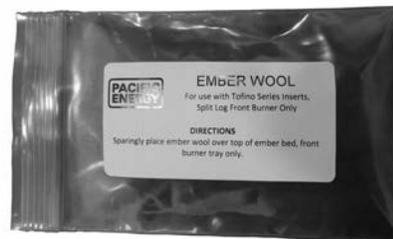

Figure 63: Ember wool.
17. Gently pull apart the individual pieces of the ember wool (Figure 63) so that they are not compressed or compacted and spread them in front of the logs to finish (Figure 87).